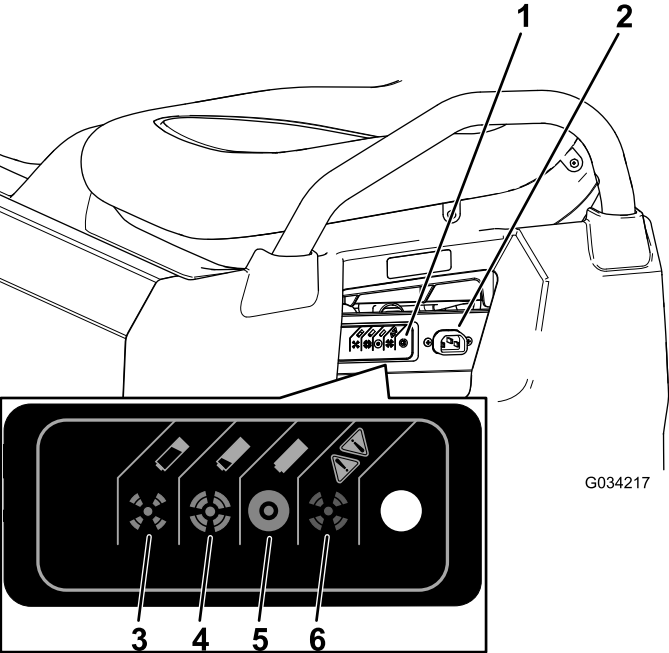

Figure 38
3. Connect a **16 gauge (or larger diameter), 2.5 m (8.2 ft) or shorter charger cord** to the charging receptacle on the machine (Figure 38).
Refer to the following table and Figure 38 for information on the meanings of the varying colors of the charger-status light.